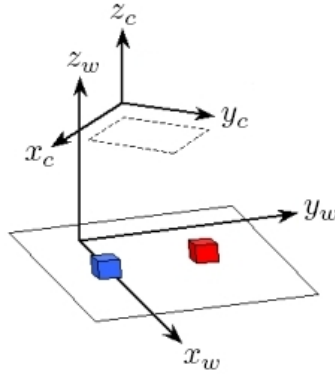

Figure 6.1: Arrangement of the world and camera frames.
a different way than given in the textbook. Instead, our setup looks like Figure 6.1 in this lab manual.
5. θ is the angle of rotation between the world frame and the camera frame. Please refer to section C.3 of this lab manual for an explanation of why we need only one angle to define this rotation instead of two as described in the textbook. Calculating this angle isn't difficult, but it is sometimes difficult to visualize. Place two blocks on the table in view of the camera and arranged in a line parallel to the world y axis as shown in Figure 6.1. Figure 6.2 gives an overhead view of the blocks with a hypothetical cutout representing the image captured by the camera. Because the camera's x and y axes are not quite parallel to the world x and y axes, the blocks appear in a diagonal line in the image. Using the centroids of the two blocks and simple trigonometric functions, compute the angle of this diagonal line and use it to find θ , the angle of rotation between the world and camera frames.